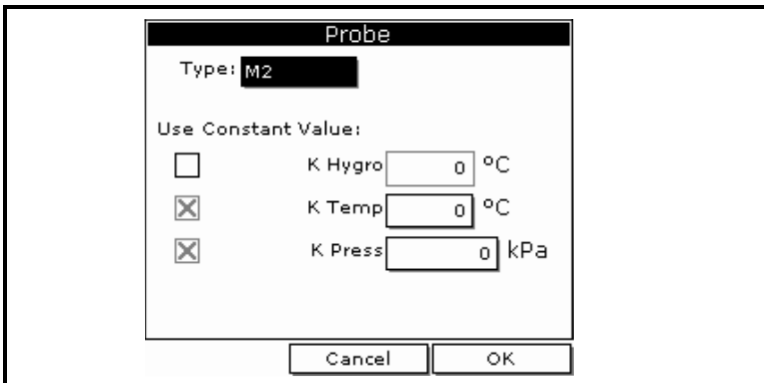

Figure 1-3: The Probe Window
3. Use the arrow key to scroll to Probe and press [ENTER]. The screen appears similar to Figure 1-3 below.